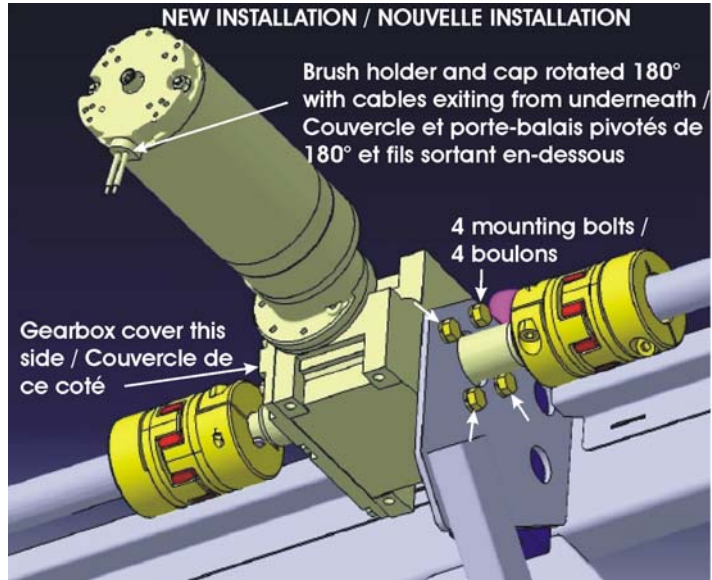

FIGURE 9
13. Connect the motor electrical cable connector. See new installation on figure 9.